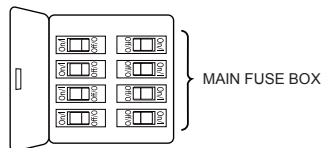
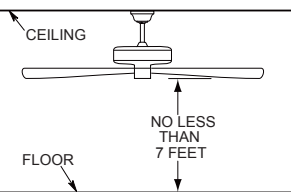
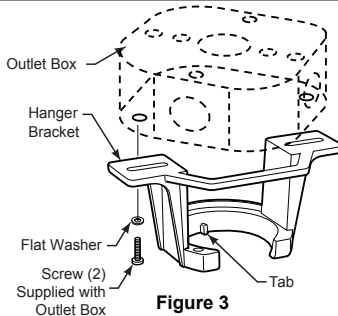

Figure 1
Figure 2
Figure 3
Your new ceiling fan will require a grounded electrical supply line of 120 volts AC, 60 HZ, 15 Amp Circuit. Electrical code requires use of a fan-rated outlet box to support the extra weight and motion associated with a ceiling fan. A fan-rated box will be labeled as such and typically supports up to a 70lbs ceiling fan. Fan-Rated Outlet Boxes vary in ratings and design. Ensure the ratings of your ceiling fan outlet box meet the requirements for the ceiling fan being installed. Figure 1, Figure 2 and Figure 3 depicts different structural configurations that may be used for mounting the outlet box.
Low-profile use (Figure 1)
Deep-profile use (Figure 2)
Brace use (Figure 3)
1. Remove the hanger ball portion from the downrod/hanger ball assembly by loosening the set screw in the hanger ball until the ball falls freely down the downrod. Remove the pin from the downrod, then remove the hanger ball. Retain the pin and hanger ball for reinstallation in Step 6. (Figure 1)
2. Remove the hairpin clip and clevis pin from the bottom of the downrod. Retain the pin and clip for reinstallation in Step 4. (Figure 2)
3. Loosen the two set screws and locking nuts in the downrod support of the motor assembly. Route the brown, blue, red, gray and yellow wires through the downrod. (Figure 3)
- ☐ 1. Position blade along the motor, aligning blade holes with holes in the top of the motor assembly flywheel. Make sure the blade is fully seated against the flywheel and tighten 3/16"-24 truss head screw with spring washer/flat washer, but don't fully tighten at this time. (Figure 1)
- ☐ 2. Install and securely tighten 3/16"-24 truss head screw with spring washer/flat washer at the underside of the blades, then securely tighten all previously installed screws on top of motor. (Figure 2)
To avoid possible fire or shock, be sure electricity is turned off at the main fuse box before hanging. (Figure 1)
The fan must be hung with at least 7' of clearance from floor to blades. (Figure 2)
- ☐ 1. Securely attach the hanger bracket to the outlet box (not included) using the outlet box screws and washers supplied with the outlet box. (Figure 3)
1. To set the code on receiver unit, slide dip switches to the same positions as set on the remote control. (Figure 1)
To avoid possible electrical shock, be sure electricity is turned off at the main fuse box before wiring. (Figure 2)
2. Slide the receiver into the hanger bracket before wiring as shown in figure 3.
- ☐ 2. Securely attach and tighten the canopy screw cover over the shoulder screws in the hanger bracket utilizing the keyslot twist-lock feature. (Figure 2)
- ☐ 2. Assemble the light kit to the support bracket using the two key slots in the light kit. Replace the previously removed screw and securely tighten all three screws. (Figure 2)
- ☐ 3. Remove one of the three screws in the light kit. Retain the screw for later and slightly loosen the remaining two screws. (Figure 3)
- ☐ 2. Restore electrical power to the outlet box by turning the electricity on at the main fuse box. (Figure 2)
- ☐ 3. Remove the battery cover from remote control by screwdriver and retain the screw for later. (Figure 3)